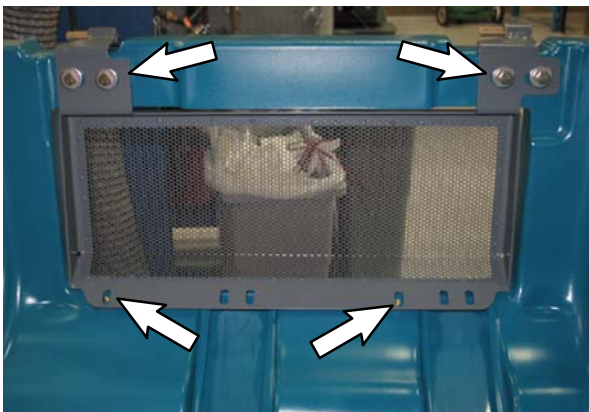

FIG. 82
103. Use four hex screws (51), four flat washers (82), two pan screws (100), and two flat washers (53) to install the right rear screen (48) onto the right rear cover (78). (Fig. 82)